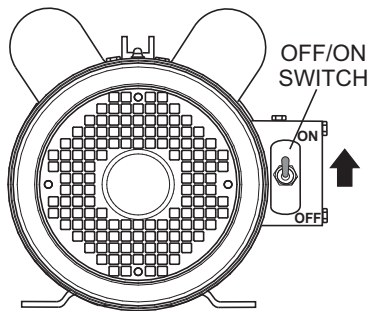

Figure 27. Electric Motor ON/OFF Switch (ON)
2. To start the electric motor (Figure 27), place the ON/OFF switch in the **ON** position.